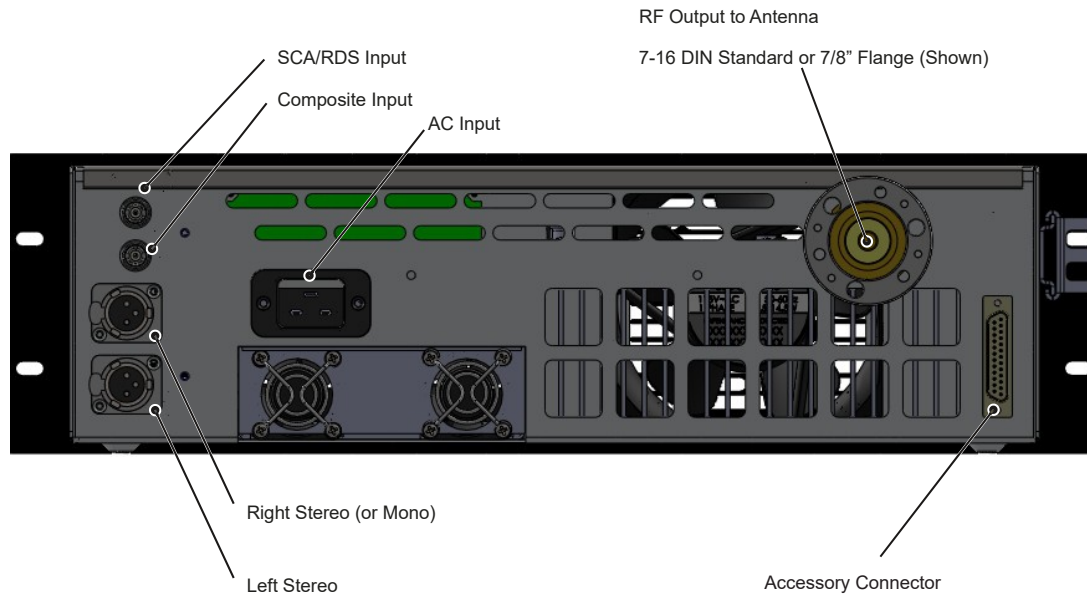

Figure 3-1. transmitter Rear-Panel Connectors
1. Connect the antenna or power amplifier input to the RF output connector on the rear panel of the transmitter (see Figure 3-1 on page 3-2).